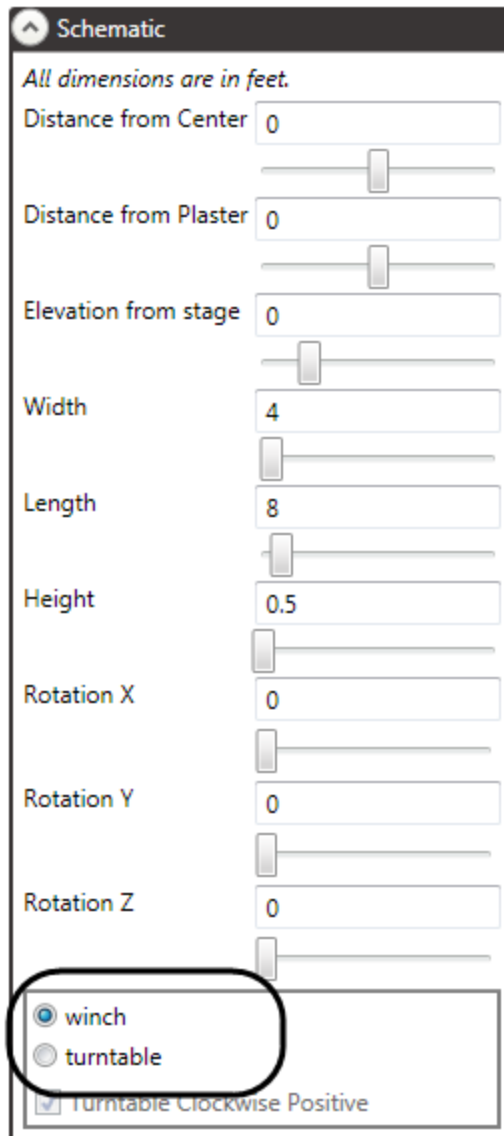

Figure 196
2. Scroll to the **Schematic** section of the **Motor Editing Pane** and make sure that winch is selected at the bottom of the list (Figure 196).